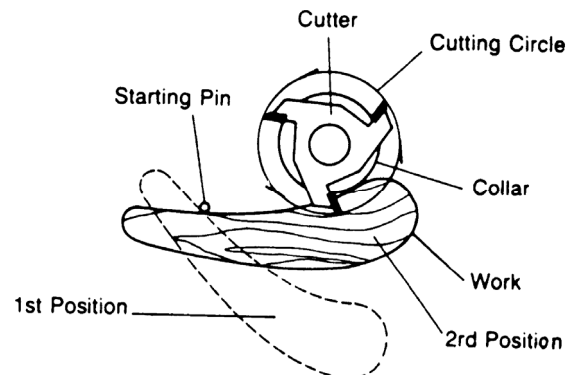

Figure 19
1. Work should be placed in the first position using the guide pin as support, as shown in Figure 19. Then swing the work into the cutter as shown in the second position. The work will now be supported by the collar and starting pin.